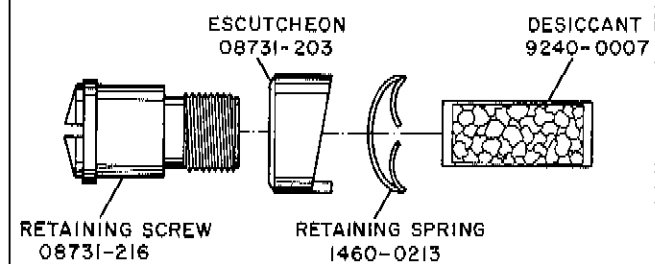

Figure 17. Desiccant Assembly
48. Inspect desiccant regularly (Figure 17) and, if it is pink or red in color, either remove and dry it or replace it.